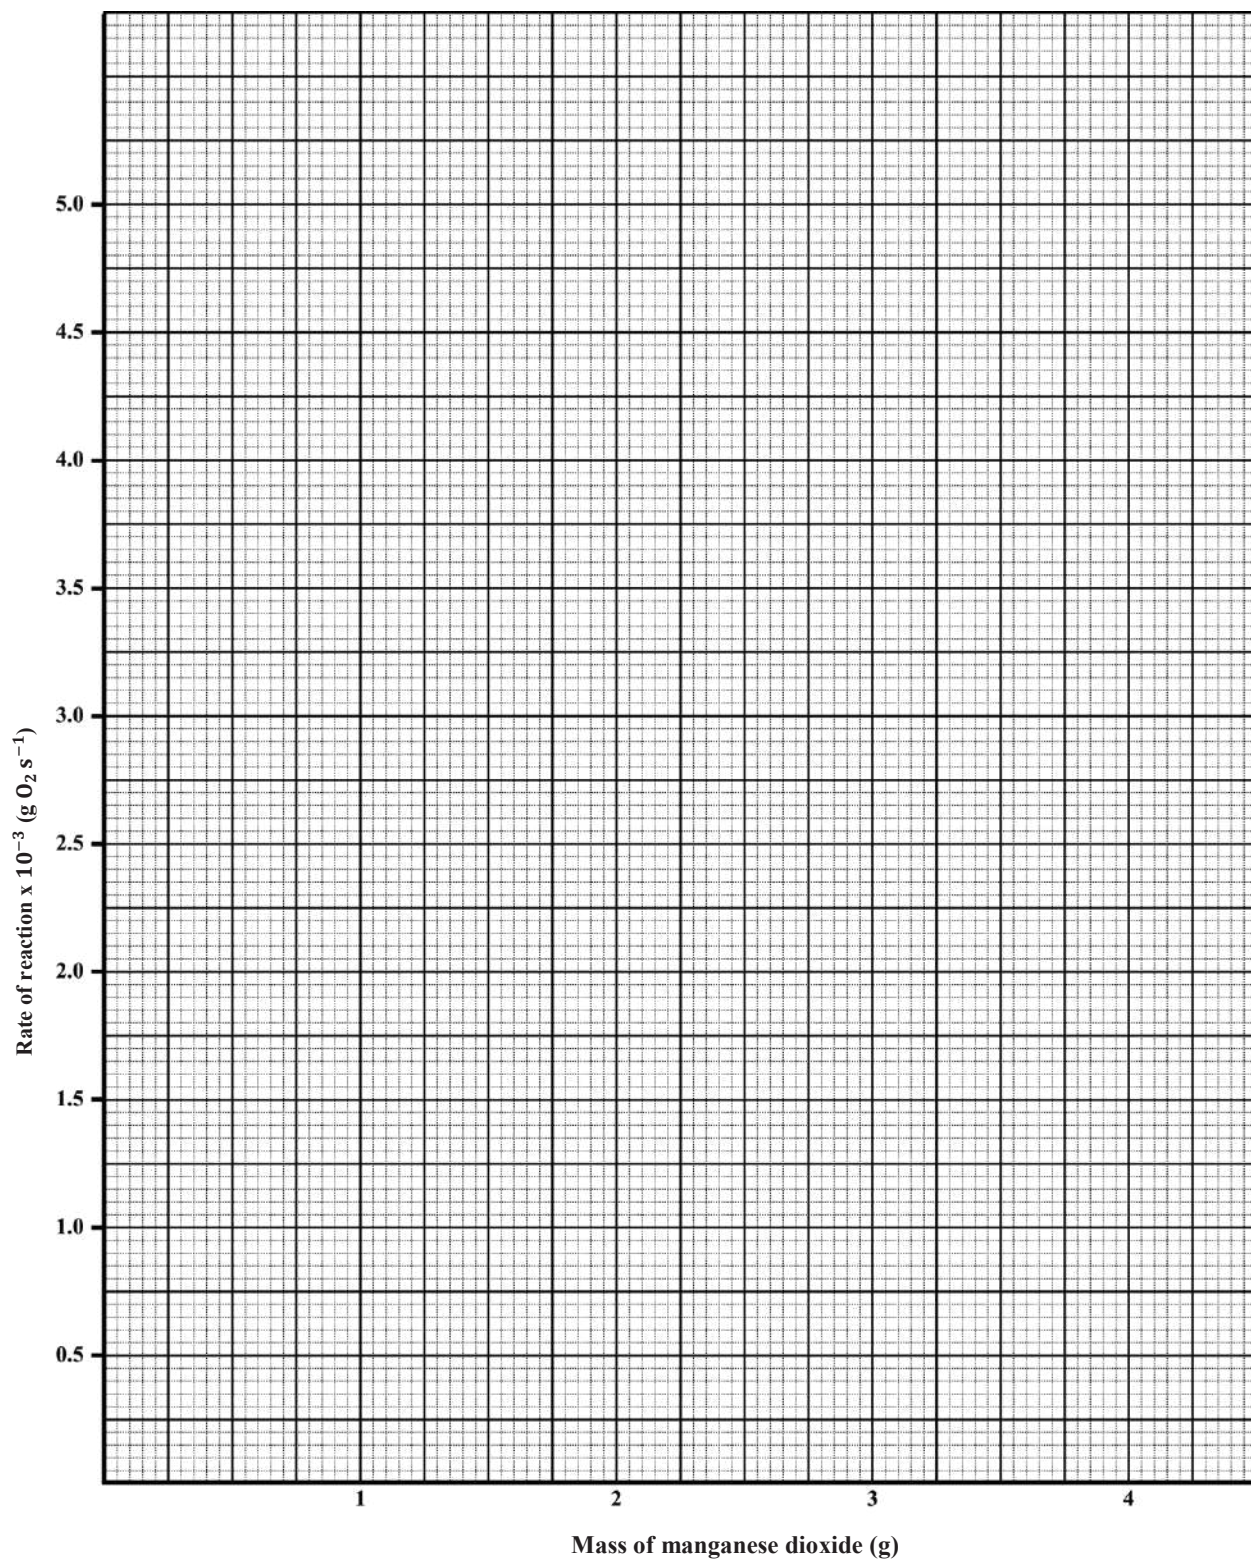

Figure 1. Rate of reaction versus mass of manganese dioxide
- (iii) Use the axes in Figure 1 on page 3 to plot a graph showing rate of reaction versus mass of manganese dioxide.
- (viii) Steve conducted another experiment to compare the rate of decomposition of  $0.3 \text{ mol dm}^{-3}$  hydrogen peroxide using the same amounts of  $\text{MnO}_2$ . On the same axes in Figure 1, sketch a graph to show how the rate of production of oxygen compares with that from Experiment 1.